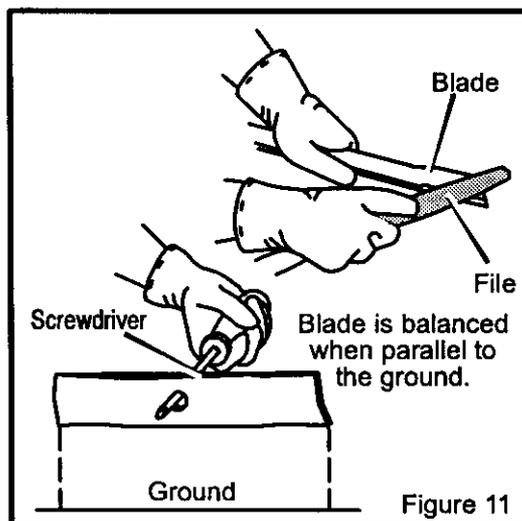

Figure 11
4. Sharpen the blade with a file. Make sure you keep the original beveled cutting edge (Figure 11).